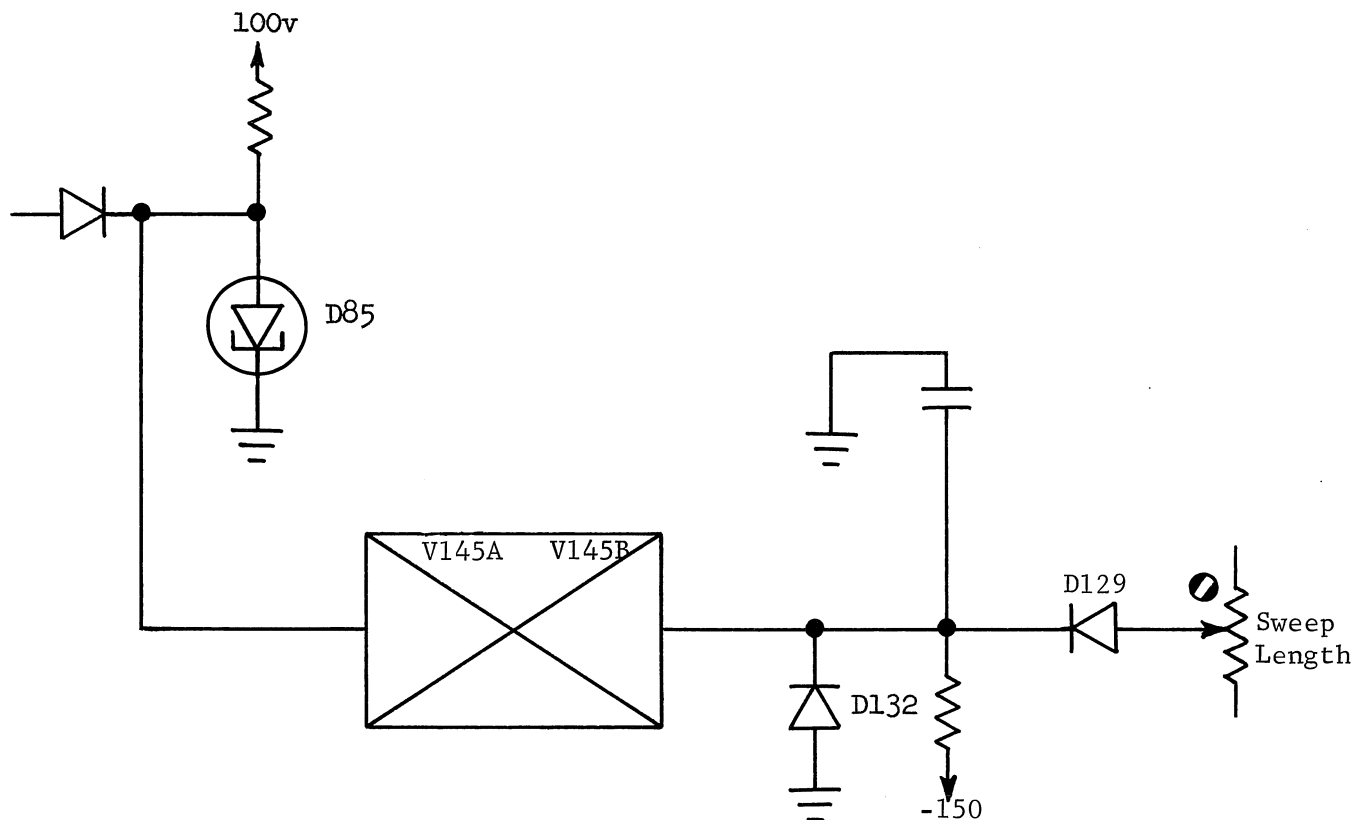

Figure 7
- B. The sweep generator cannot respond to triggers and cannot Free Run unless the Hold-off multi is in the "ready" state; Namely with V145A conducting and V145B cutoff. (See Figure 7)